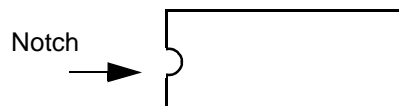

Figure A.2: Notch Orientation for Integrated Circuit
2. Orient the PROM or PLD chip so that the notch in the chip (Figure A.2) faces the notch on the circuit card.